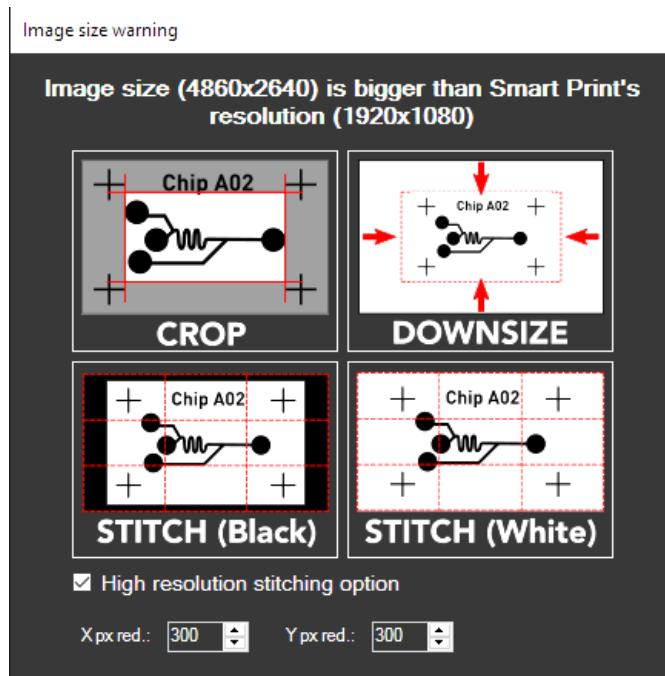

Figure 14 – « Big image » popup dialog
If at least one dimension is higher than the standard dimensions, a message will pop-up when the drawing is added to the drawing list (Figure 14). Three options are then available:
- Add a bitmap drawing on the drawing list by clicking on **add...** then select **STITCH (Black)** or **STITCH (White)** on the **Image size warning** popup dialog (Figure 14).
NOTE ON “HIGH RESOLUTION” STITCHING: If the high-resolution option is checked on the popup dialog Figure 14, the image will be sliced in smaller sub-images to reduce the impact of the optical geometrical aberrations and then increase the overall quality of the lithography. Yet, the increased number of sub-images will result in a higher number of field connection with their intrinsic error. The key parameters **X px. red.** and **Y px. red.** respectively reduce the width and the height of each sub-image.